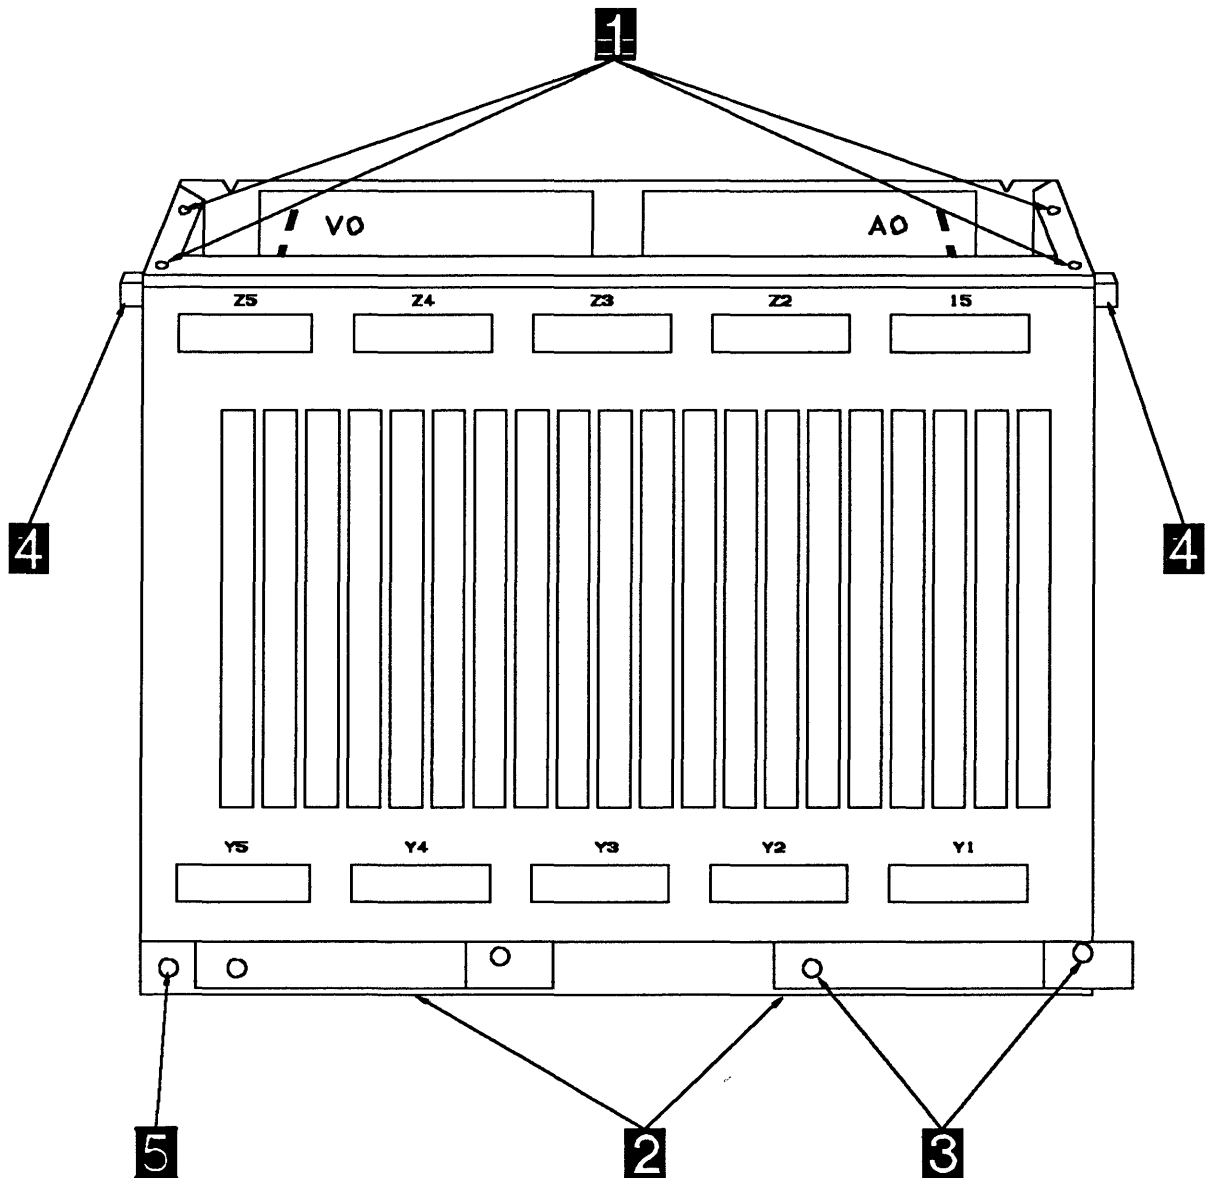
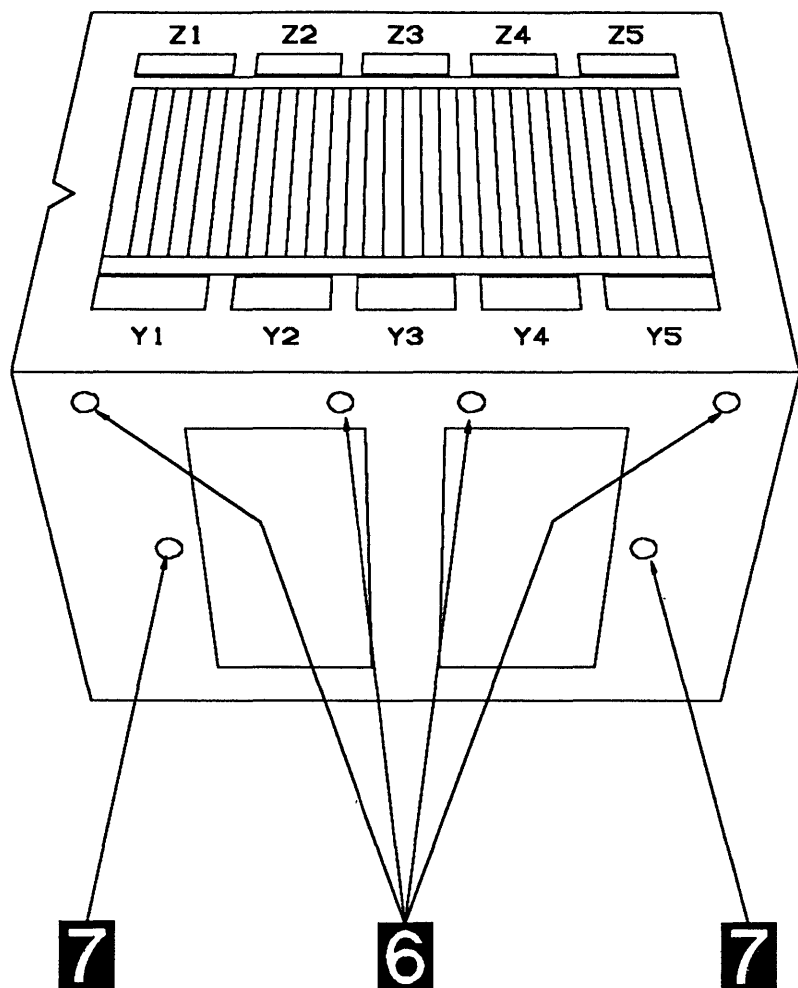

Figure 5-154. Rear View of the SAC Gate Assembly
Figure 5-155. Front View of the SAC Gate Assembly
5. Refer to Figure 5-154 on page 5-155. Working from the rear of the frame 01, do the following:
6. Refer to Figure 5-155 on page 5-156. Working from the front of frame 01, do the following:
8. Refer to Figure 5-155 on page 5-156. Then remove the 4 screws **6** holding the SAC gate assembly.
9. Refer to Figure 5-154 on page 5-155. Working from the rear of frame 01, do the following:
- c. Referring to Figure 5-155 on page 5-156 and working through the gate assembly, remove the last 2 screws **7** still holding the gate assembly to the frame.
Refer to Figure 5-154 on page 5-155 and Figure 5-155 on page 5-156